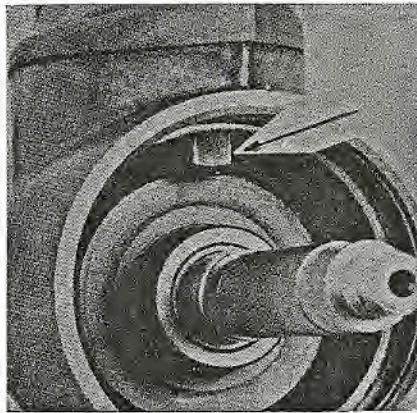

Fig. WB22—Lower unit gearcase with propeller shaft bearing cage removed, showing location of rear stud nut.
To detach lower gearcase (12) from drive shaft housing (7), unscrew and remove shift rod (1). Housings are secured by a socket head cap screw at the front and the stud nut **INSIDE** the case shown by arrow, Fig. WB22.